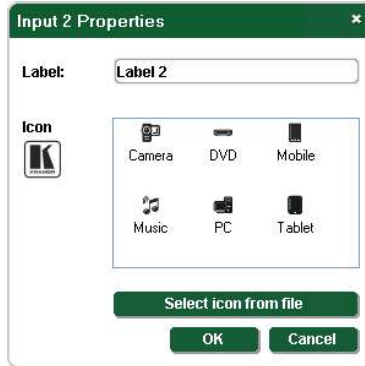

Figure 12: Input Button Properties Window
1. Right-click on the relevant input button. The **Input Properties** window appears as shown in Figure 12.
The **About MV6 Controller** window appears as shown in Figure 12.